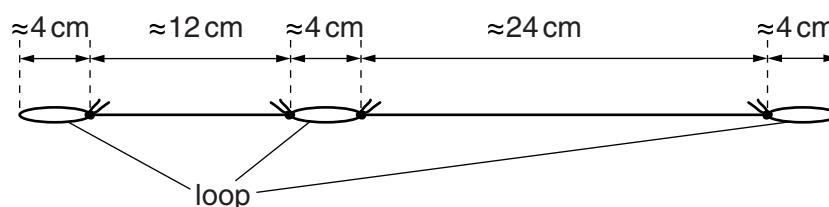

Fig. 1.1
- 1 The string should be supplied as shown in Fig. 1.1.